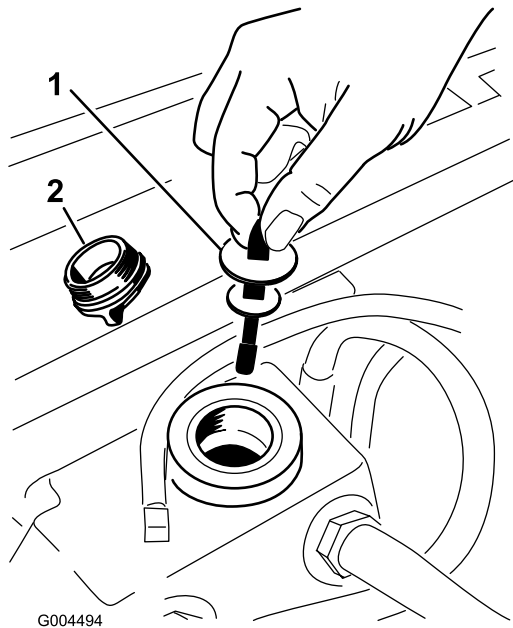

Figure 60
5. Remove the hydraulic fill cap from the filler neck (Figure 60).
6. Remove the dipstick and wipe it with a clean rag (Figure 60).
7. Place the dipstick into the filler neck; then remove it and check the level of fluid (Figure 60).